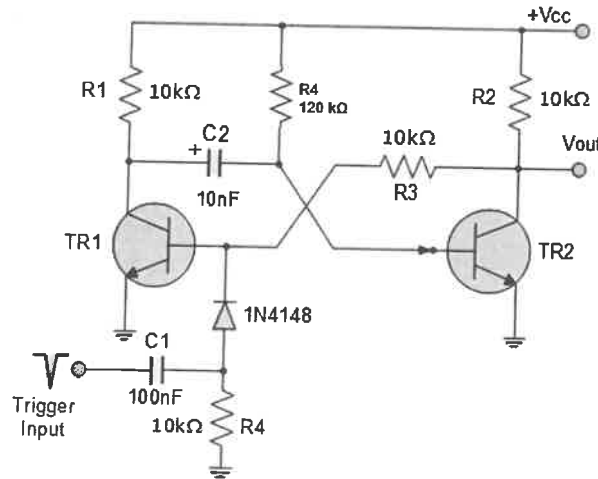

Figure 15: Circuit diagram
a) Name the circuit in Figure 15 and give an example of what it could be useful for.